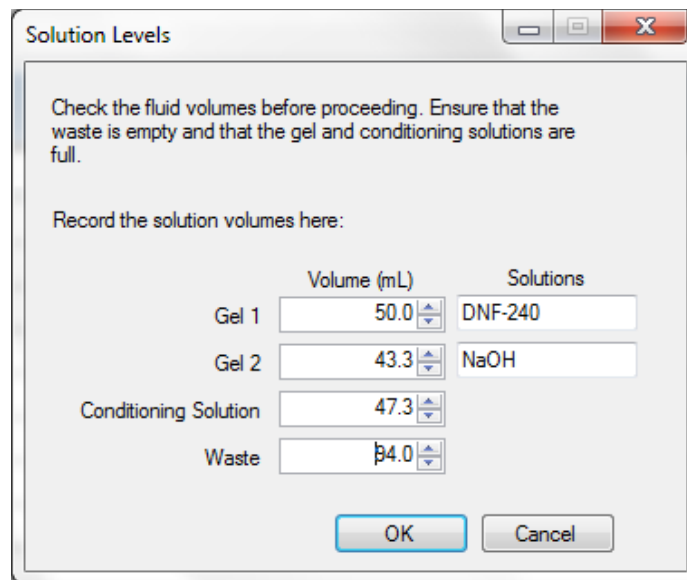

Figure 1. **Solution Levels** menu
- When adding Separation Gel to the instrument, update the solution levels in the *Fragment Analyzer*[™] instrument control software. From the Main Menu, select **Utilities – Solution Levels**. A menu will be displayed to enter in the updated fluid levels (Figure 1).
5. When adding fresh 1X Capillary Conditioning Solution to the instrument, update the solution levels in the *Fragment Analyzer*[™] instrument control software. From the Main Menu, select **Utilities – Solution Levels**. A menu will be displayed to enter in the updated fluid levels (Figure 1).